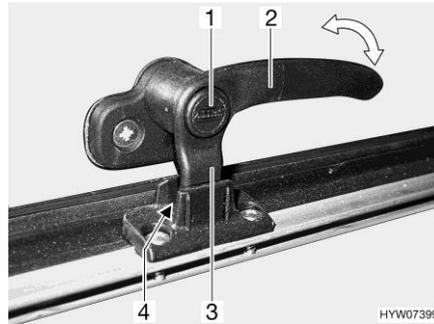
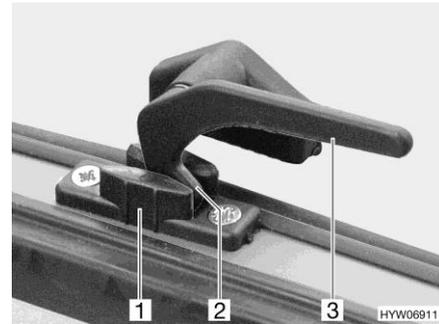

Fig. 91 Catch lever with safety knob in "continuous ventilation" position
Fig. 92 Catch lever in "continuous ventilation" position
- "Continuous ventilation" (Fig. 91 and Fig. 92)
- Press and hold the security button (Fig. 91,1), if present.
- Turn all catch levers (Fig. 91,2 or Fig. 92,3) a quarter turn towards the centre of the skylight.
- Return all catch levers to their initial position. The locking catch (Fig. 91,3 or Fig. 92,2) has to be moved into the recess of the skylight lock (Fig. 91,4 or Fig. 92,1).